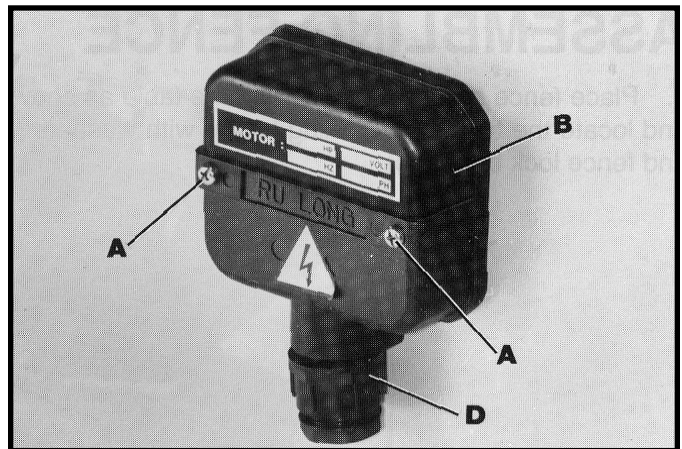

Fig. 38
1. Remove two screws (A) Fig. 38, and remove terminal strip cover (B).
3. Insert power line through opening (D) Fig. 38, of terminal strip cover (B).